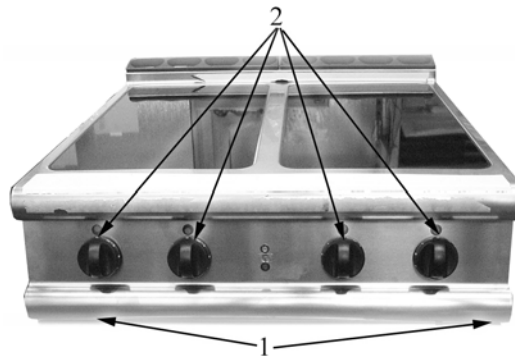

Fig. 5
- Remove the knobs (item 2 in Fig. 5);
- Loosen the fixing screws to remove the control panel (item 1 in Fig. 5).